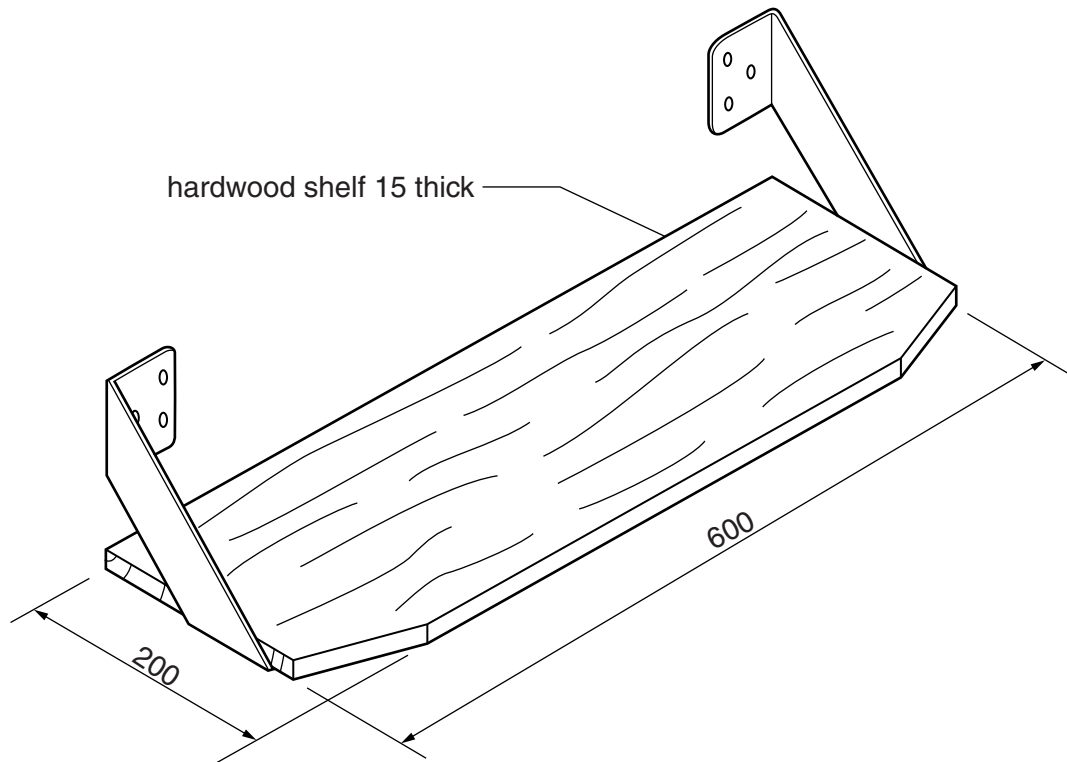

Fig. 14
- 13** Fig. 14 shows a hardwood shelf supported by two end brackets. The brackets could be made from acrylic or aluminium.